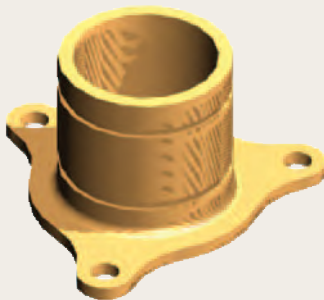
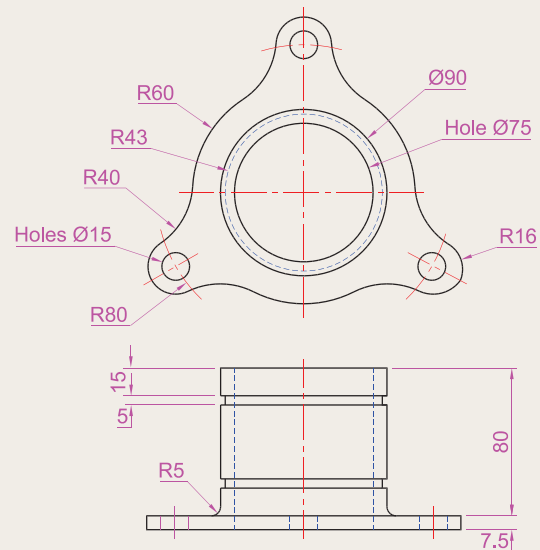

Fig. 17.40 Exercise 5 – a rendering
Fig. 17.41 Exercise 5 – two-view drawing
5. A rendering of a 3D model drawing of the connecting device shown in the orthographic projection shown in Fig. 17.41 is given in Fig. 17.40. Construct the 3D model drawing of the device and add a suitable lighting to the scene. Then place in the **ViewCube/Isometric** view, add a material to the model and render.